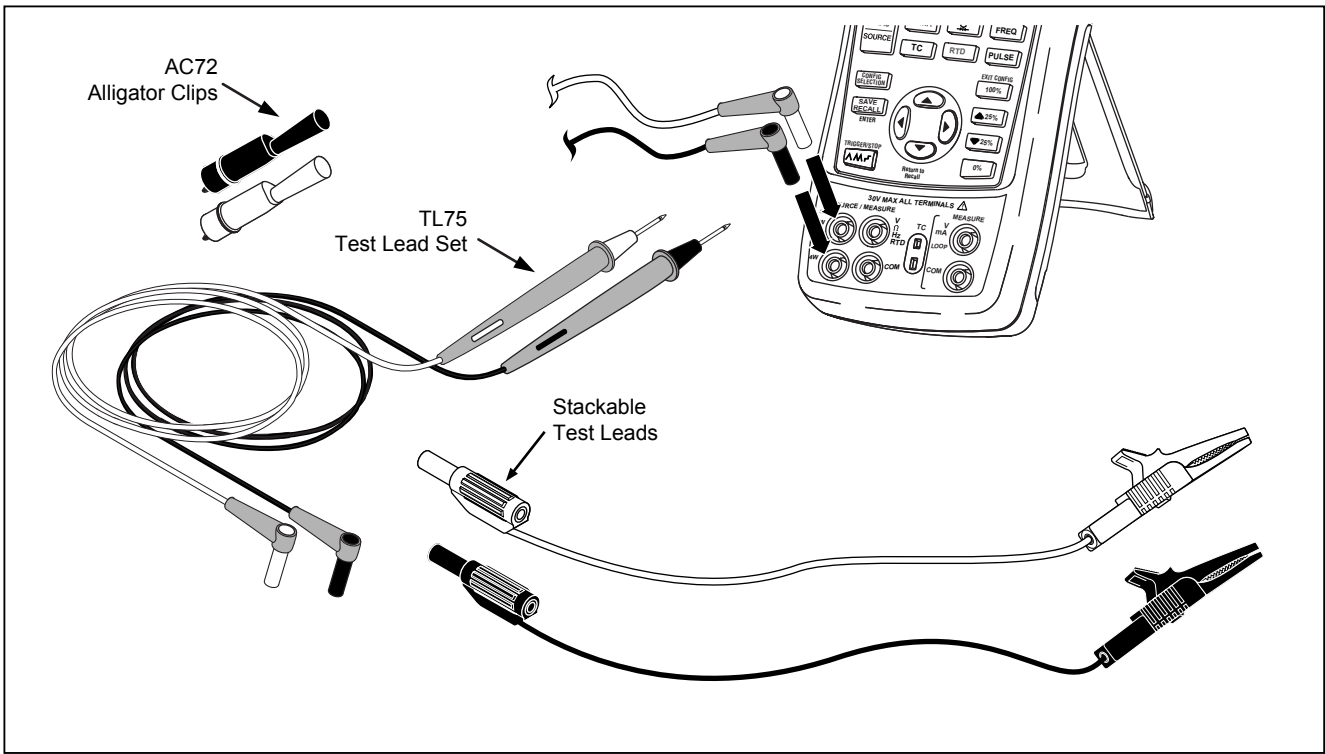

Figure 1. Standard Equipment
If the Calibrator is damaged or something is missing, contact the place of purchase immediately. To order replacement parts, see Table 8. The items listed below and shown in Figure 1 are included with the Calibrator.
- 726 *Product Overview* (not shown in Figure 1)
- 725/726 *CD-ROM* (contains Users Manual; not shown in Figure 1)